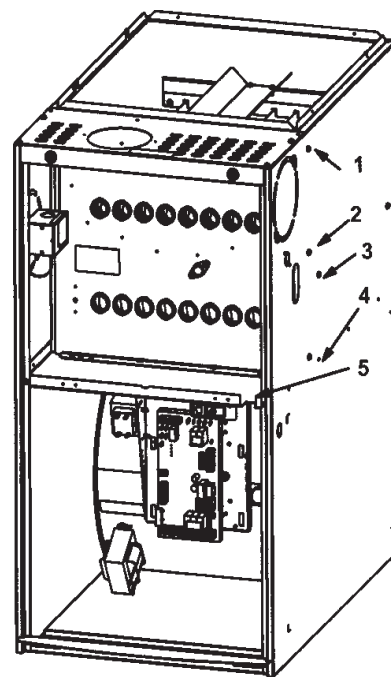

Figure 40
10. Remove heat exchanger. It may be necessary to spread cabinet side to allow more room. If so, remove five screws from the left side or right side of cabinet. See Figure 40.